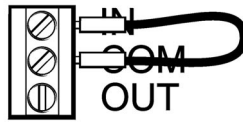

Figure 16 – Identification of the inductor configuration terminal
4. Removal of the inductor from the drive system is achieved by changing the link wire that is joining the “COM” (common) to the “IN” (inductor in circuit) terminals, such that the link wire now joins the “COM” and the “OUT” (inductor out of circuit) terminal. Refer to figure 16.